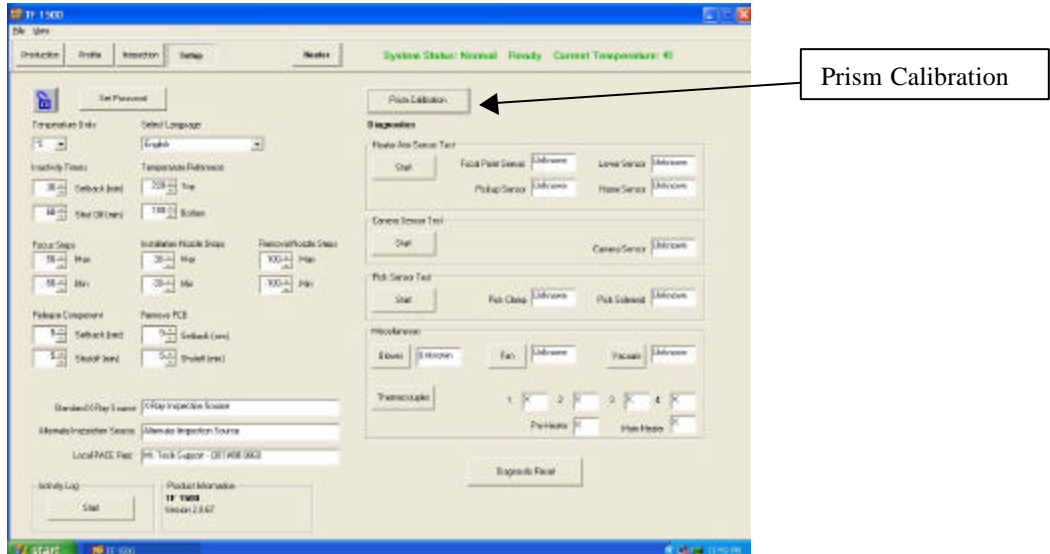

Figure 8
- i. Select setup screen. (Figure 8)